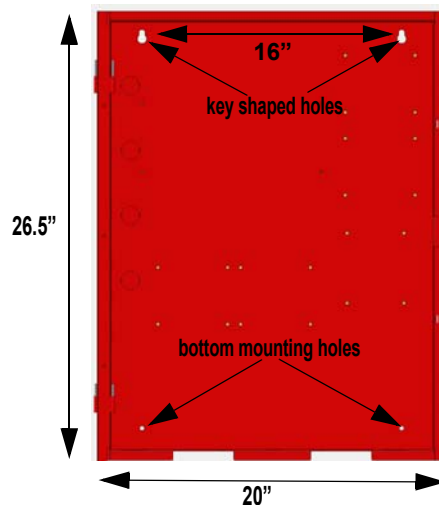

Figure 2 Cabinet Mounting Holes
2. Mark and pre-drill holes in the wall for the center top keyhole mounting bolts using the dimensions in Figure 2.